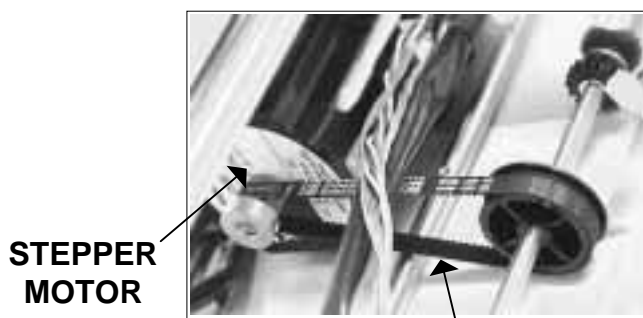

Fig. 5-16 BELT "A"
2.	After adjusting motor, tighten but do not over tighten screws. Belts should have some movement. Fig. 5-16 & 5-17